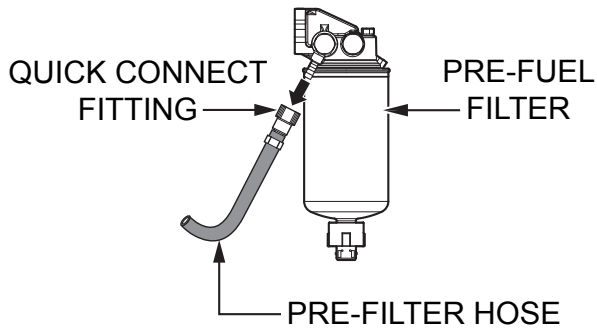

Figure 8. Pre-Filter Hose Removal
1. Disconnect the quick-connect fitting securing the pre-filter hose to the pre-fuel filter (Figure 8).